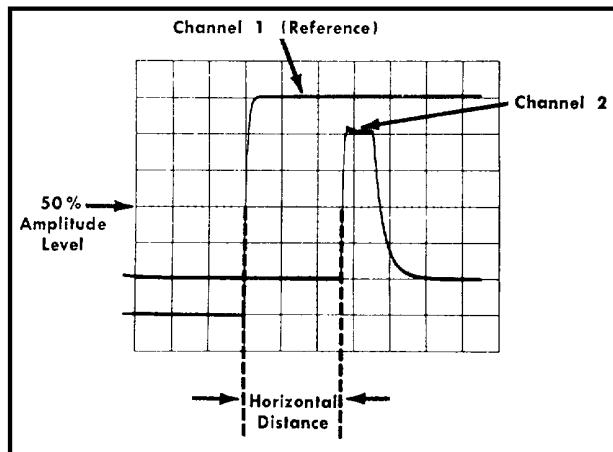

Fig. 2-3. Measuring time delay between pulses.
10. Measure the exact horizontal distance between the reference waveform and the Channel 2 waveform (see Fig. 2-3).
For example, assume that the time/division switch is set to 5 microseconds, the 5 X magnifier is on and the horizontal distance between waveforms is 2.7 divisions (see Fig. 2-3).